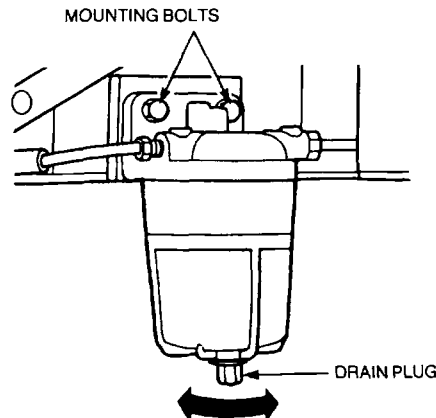

Figure 28 Fuel Sedimenter Removal
- Remove the drain plug and drain the contents into a suitable container (Figure 28).